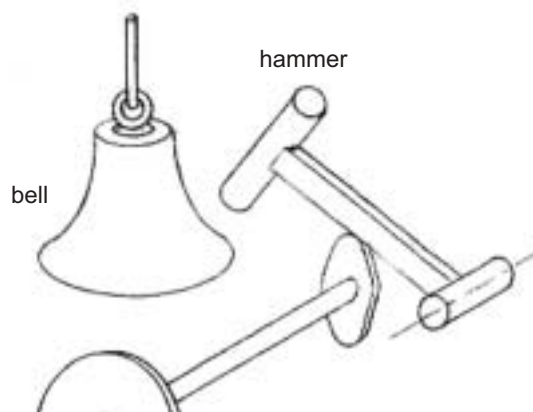

Figure 4
c. On the diagram below (Figure 4) clearly label the fulcrum, effort and load of the hammer.
d. Explain in detail the operation of the cam in Figure 4.